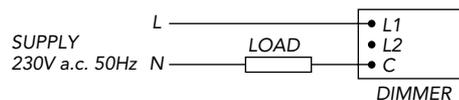
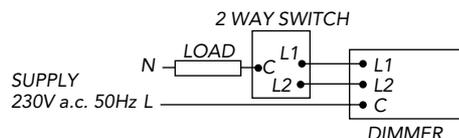

Fig.1 One Way Switching
Fig. 2 Two Way Switching (only 1 Dimmer can be used)
- Insert the bared ends of the wires fully into the relevant terminals and securely tighten the Terminal Screws (refer to fig.1 for one way switching and fig. 2 for two way switching).